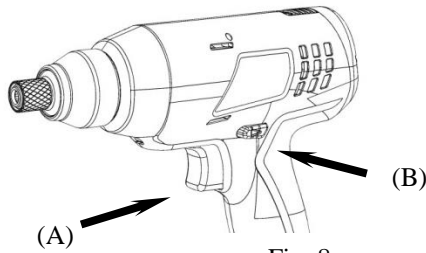

Fig. 8
To select forward rotation, **RELEASE THE SWITCH (A)** and push the forward/reverse lever (B) toward left side of the tool ◀ (see Fig. 8).
To select reverse rotation, **RELEASE THE SWITCH (A)** and push the forward/reverse lever (B) toward right side of the tool ▶ (see Fig. 8).